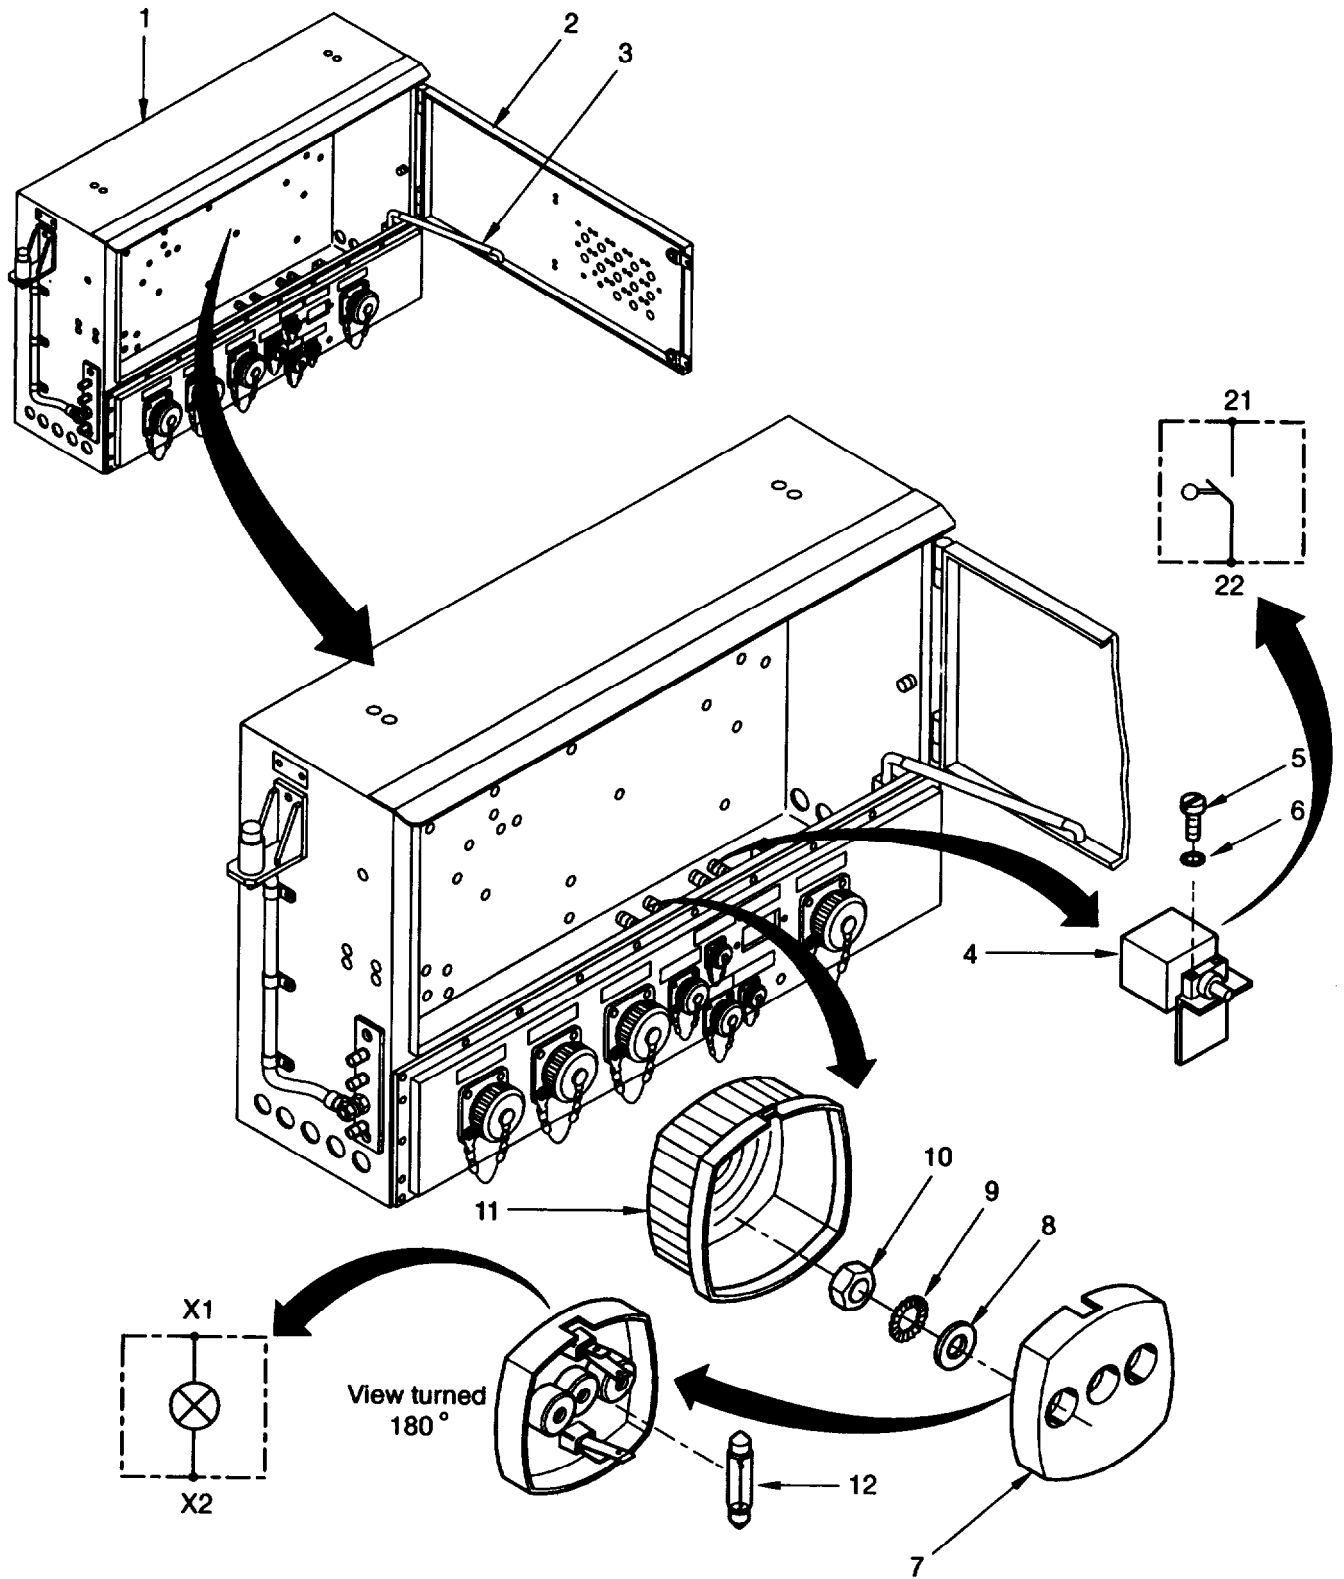

Figure 4-47 Cabinet illumination S5/H11.
- a. Remove stanchion by PDU (1, figure 4-47).
- b. Open access door (2) and secure with prop (3).